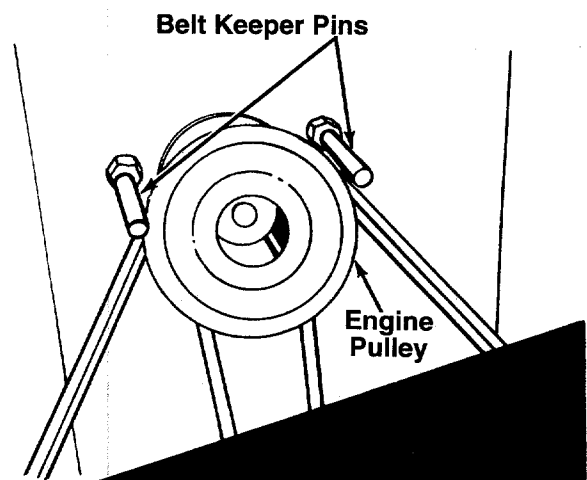

FIGURE 19.
**NOTE:** Figures 19, 22 and 23 are shown with the unit tipped up for clarity. It is not necessary to tip the unit to remove the belts.
2. Remove the belt keeper pins from the engine pulley belt guard. See figure 19.
**NOTE:** When reassembling, make certain belt keeper pins are assembled in the same locations from which they were removed. See figure 19.
3. Remove the belt keeper pins from the engine pulley belt guard. Refer to figure 19.
**NOTE:** Make certain belt keeper pins are reassembled as shown in figure 19.